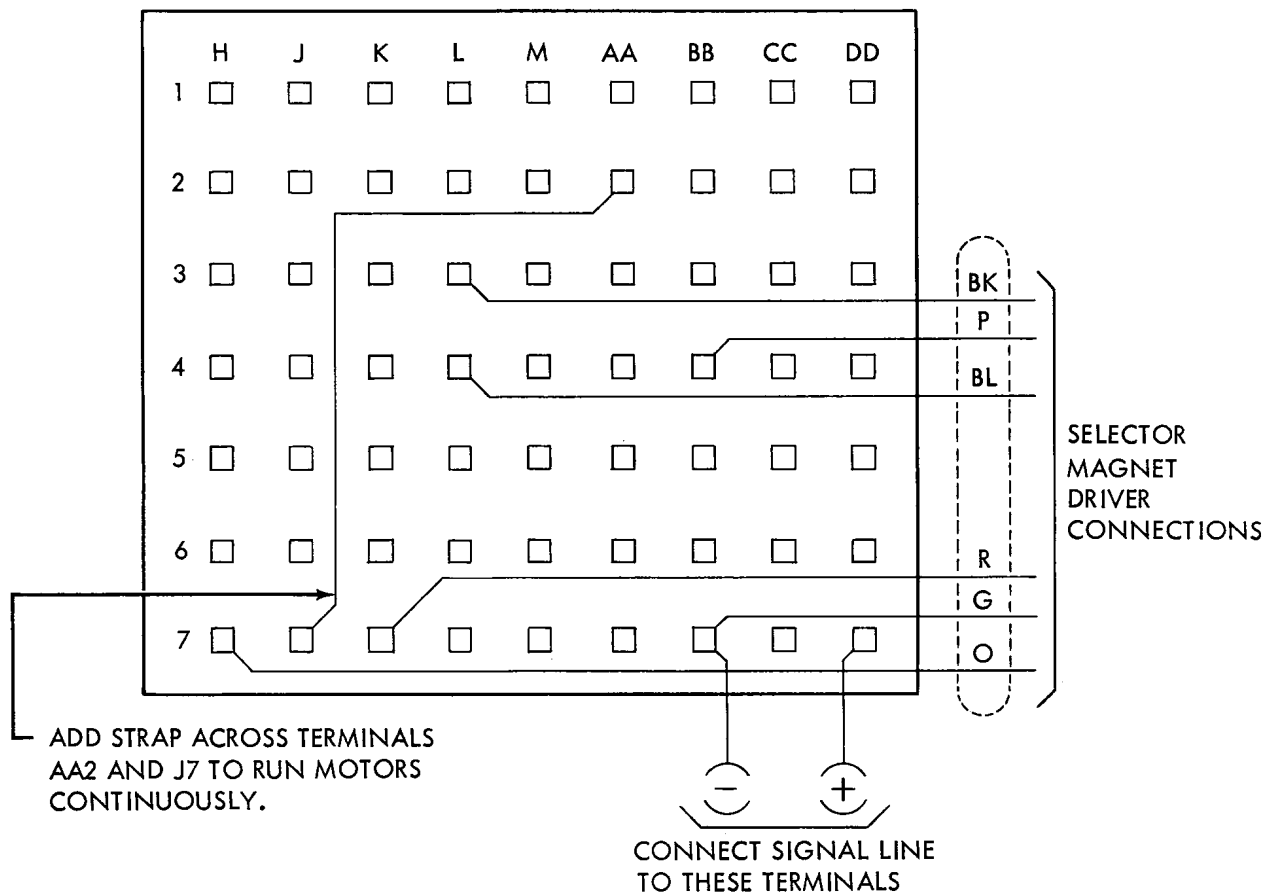

Figure 8 - Connections to Service Unit
B. External Signal Line - Signal-to-Tape Converter (See Figure 8)
C. Remote Control Connections - Signal-to-Tape Converter (See Figure 8)